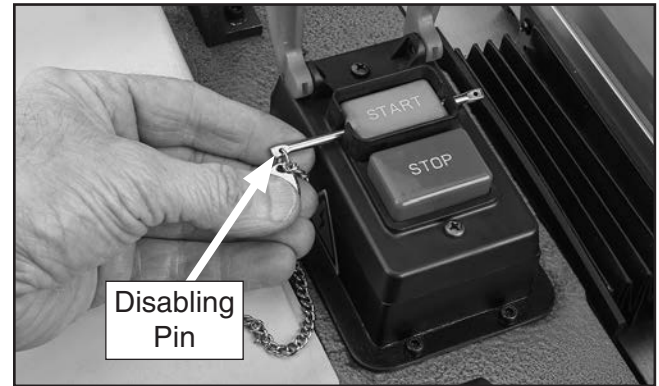

Figure 21. Disabling pin inserted into button.
4. Insert disabling pin through switch button (see **Figure 21**).